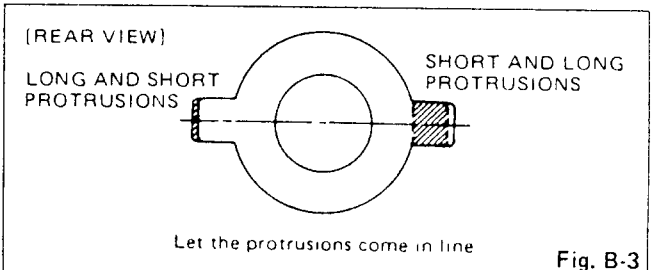

Fig. B-3
2. Let the purity tabs come in line horizontally as is shown in Fig. B-3. A long tab should be in the same direction as the other short tab.